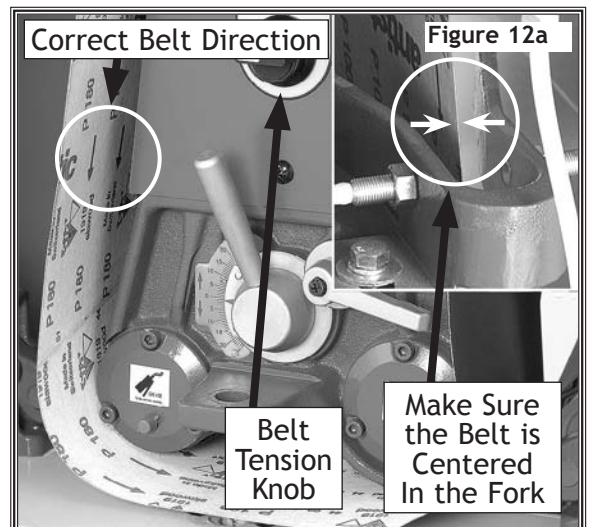

Figure 12. Installing sanding belt left and right machine view.
3. Install the sanding belt so the belt is centered in the fork (see **Figure 12a**), and the belt arrows are pointing in the direction of drum rotation (see **Figure 12**).